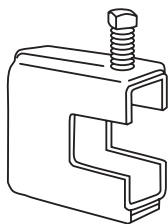

Fig. 1
- BC13 (fig. 1) Heavy duty steel beam clamp to fit up to $\frac{7}{8}$ " (22mm) thick flanges.